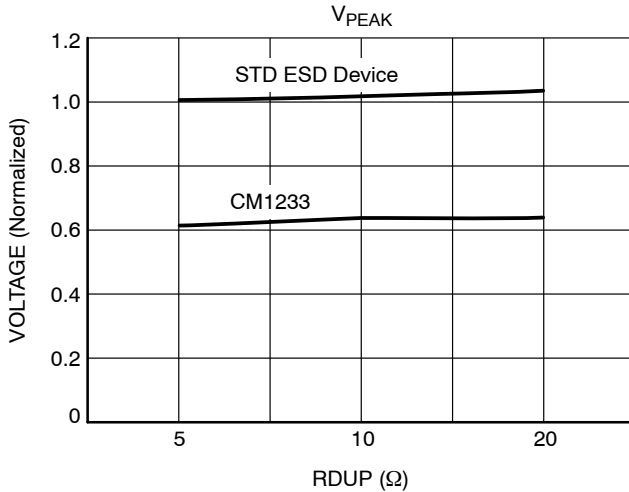
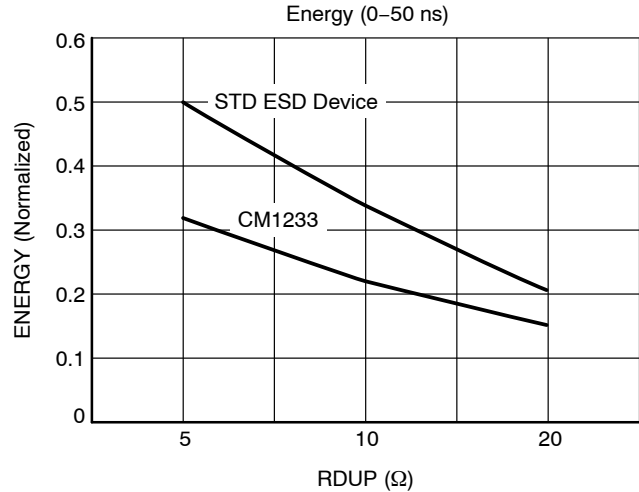
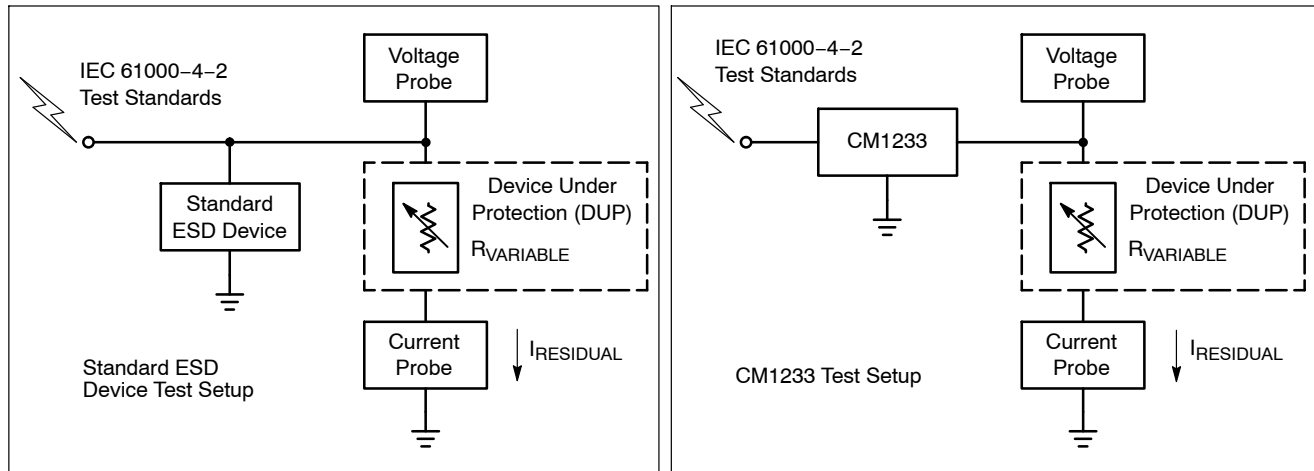

Figure 5. V_{PEAK} (8 KV IEC-61000 4-2 ESD Contact Strike) and V_{Clamp} vs. Loading (RDUP)*
Figure 6. Energy Dissipated in DUP vs. RDUP*
Figure 7. Test Setups: Standard Device (Left) and CM1233 (Right)
Figure 5 shows that the CM1233 (ESD protector) lowers the peak voltage and clamping voltage by 45% across a wide range of loading conditions in comparison to a standard ESD protection device. Figure 6 also indicates that the DUP/ASIC protected by the CM1233 dissipates less energy than a standard ESD protection device. This data was derived using the test setups shown in Figure 7.
*RDUP is the emulated Dynamic Resistance (load) of the Device Under Protection (DUP). See Figure 7.